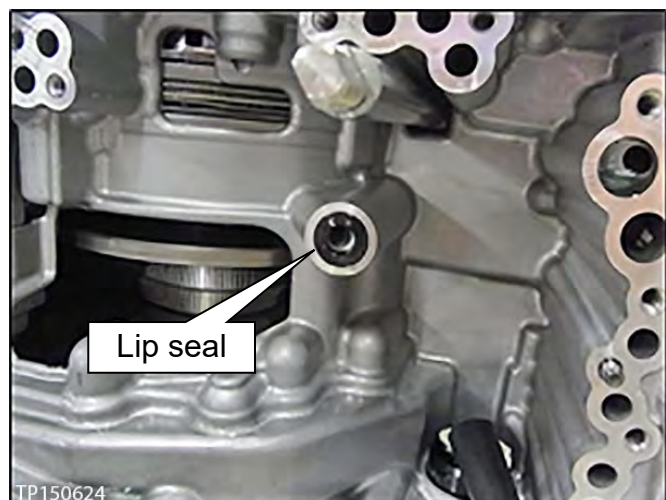

Figure 37
8. Carefully remove the lip seal (see Figure 37).